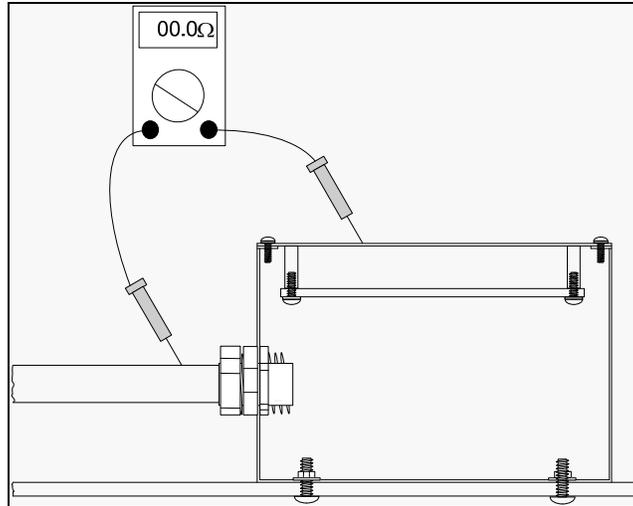

Figure 21 Continuity Testing - Conduit to Faceplate
Step 2: Measure the resistance from the conduit to the faceplate as shown in **Figure 21** below.